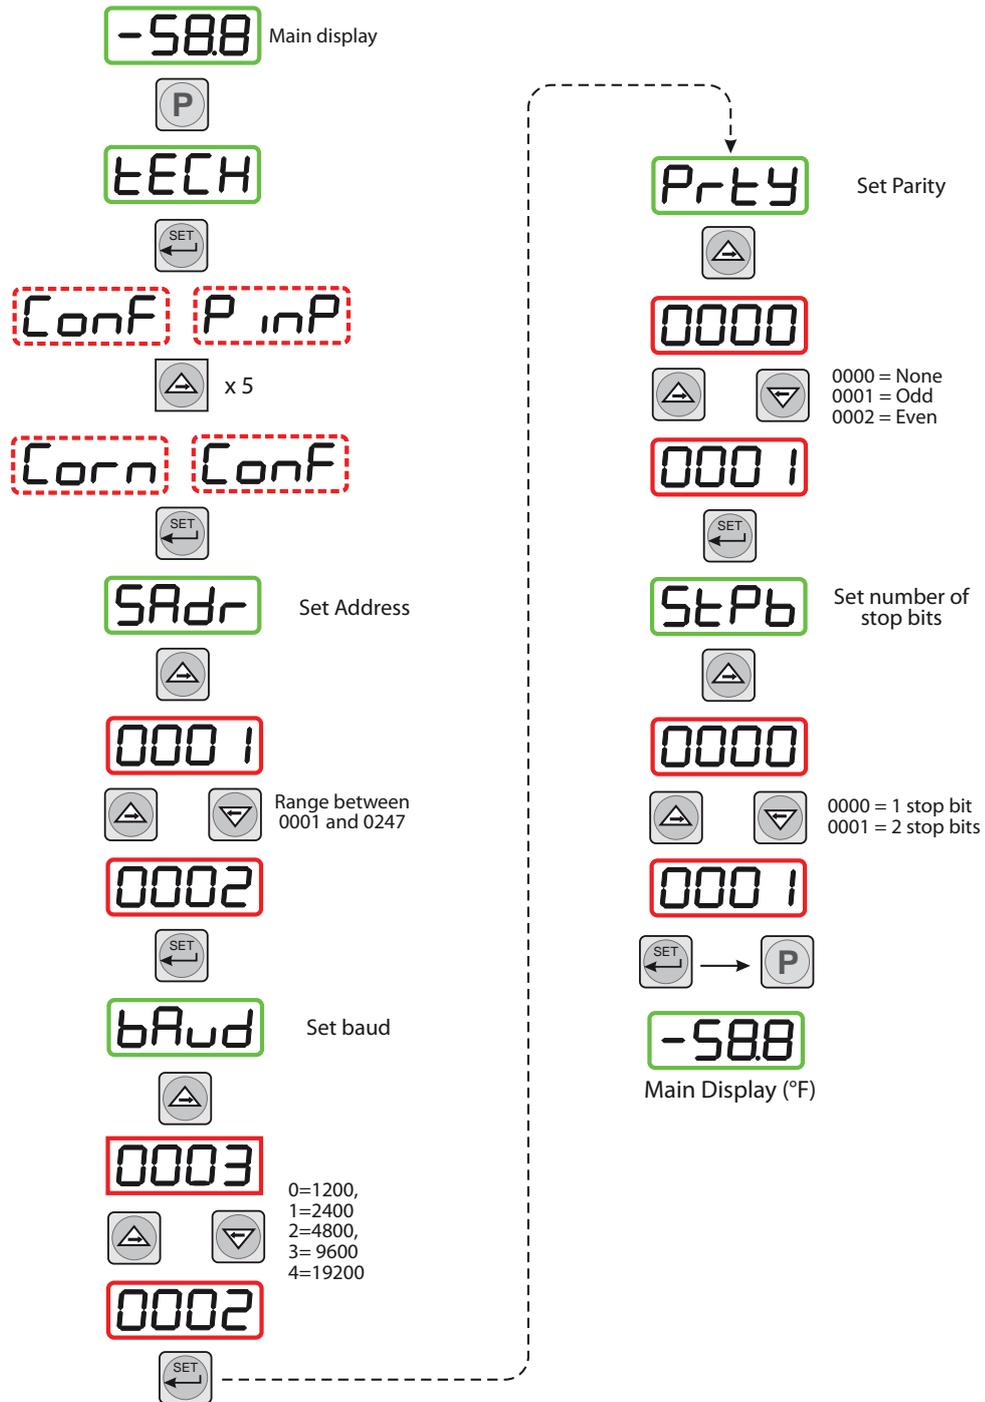

Figure 14 Set-up Data Communications Parameters
*Figure 14* shows the operational key sequence.